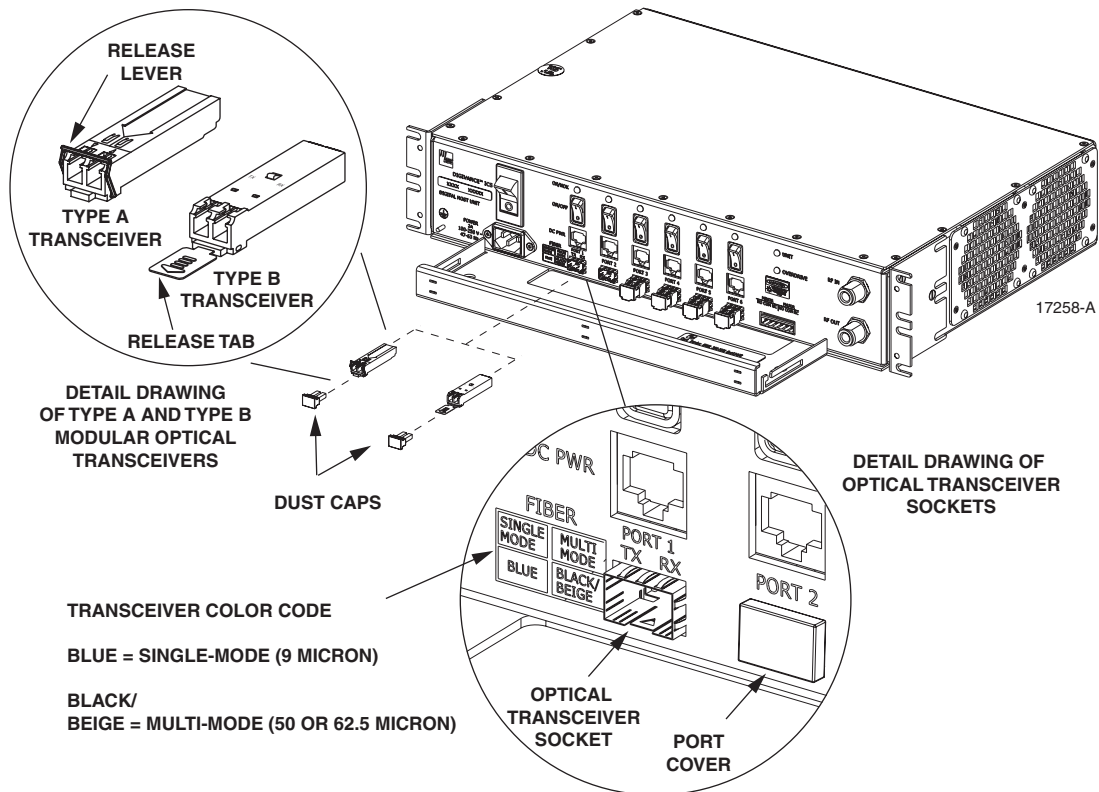

Figure 18. Optical Transceiver Installation
2. Locate the appropriate transceiver socket on the front of the DHU as shown in Figure 18 and remove the port cover from the socket.
3. Select the optical transceiver that corresponds to the type of fiber (single- or multi-mode) required for the installation. The color of the transceiver (see transceiver color code in Figure 18) corresponds to the fiber type.
4. Remove the transceiver from the anti-static packaging and orient for installation (see Figure 18.).
- ◆ **Note:** Two types of optical transceivers, type A and type B, are available. Both types provide the same functionality. On the type A optical transceiver, the release lever (see Figure 18) must be closed for installation.